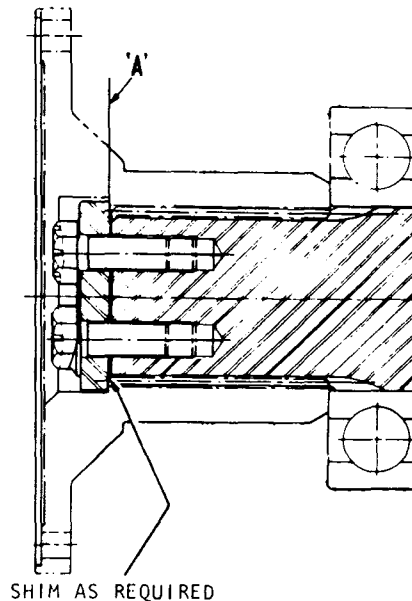

Fig. 4-7. Measurement to determine flange shim thickness
(1) If the transmission is equipped with input and/or output flanges which require shims, use the following procedure to determine the shim pack thickness.
(2) Install the flange onto the splined shaft. Install the flange washer and the two self-locking bolts. Tighten the bolts sufficiently to draw the flange into its final position on the shaft.
(3) Remove the two bolts and flange washer. Measure and record the dimension from the flange washer seat in the flange (face A) to the end of the shaft (fig. 4-7).
(4) For input shafts, subtract 0.007 from the recorded dimension; for output shafts, subtract 0.010. The remainder is the thickness of the shim pack required for the